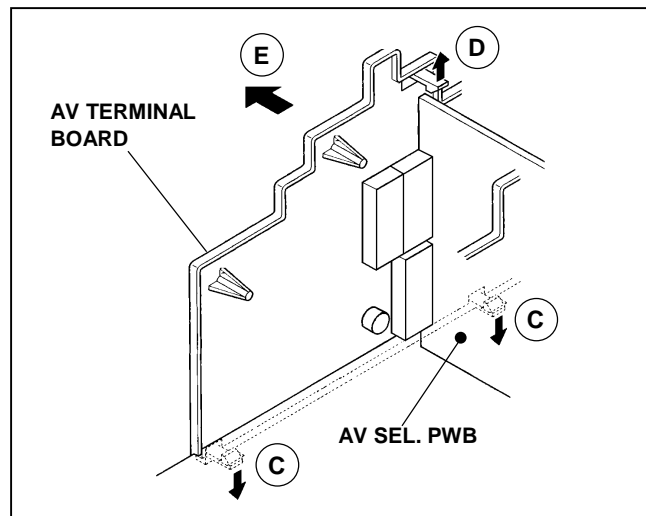

Fig. 4
2. Remove the claws marked "C" under the CHASSIS as shown in Fig. 4.
3. While raising the claw marked "D", remove the top of the AV TERMINAL BOARD slightly in the direction of arrow "E" as shown in Fig. 4.